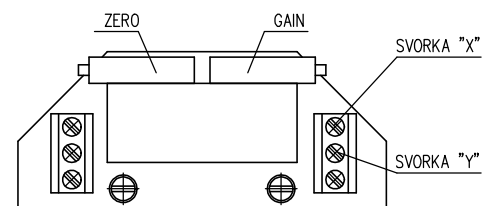

Fig.8
4.4.2 EPV – 3-wire version (Fig. 8)
- Adjust the resistive transmitter according to the previous chapter. The resistance is to be metered on the terminals X-Y (Fig. 8). The used transmitter resistance is 2000Ω or 100 Ω.
- Turn the adjusting trimmer ZERO (Fig. 8) to adjust the output current signal rate measured on the terminals 81-82 to 0 mA or 4mA.
- Turn the adjusting trimmer GAIN (Fig. 8) to adjust the output current signal rate measured on the terminals 81-82 to 20mA or 5 mA..